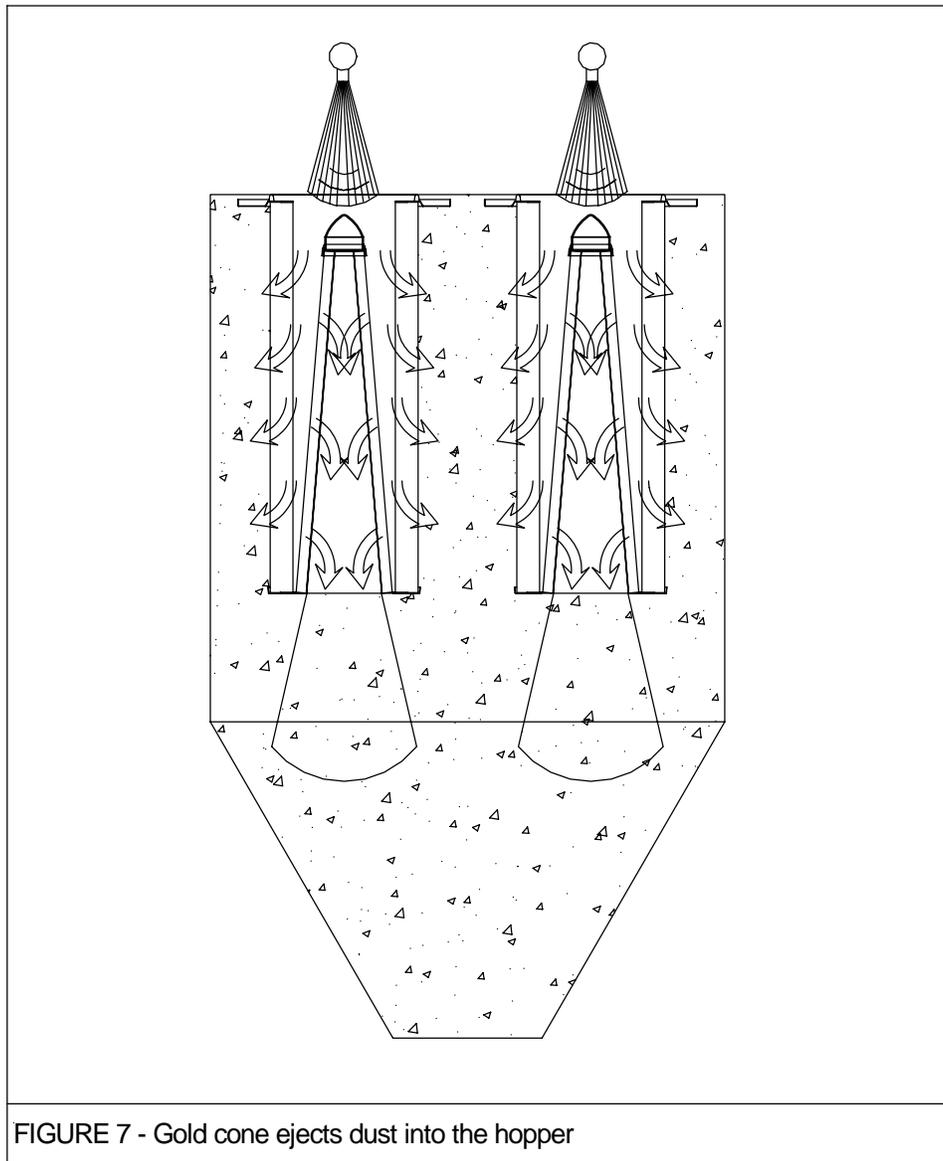

FIGURE 7 - Gold cone ejects dust into the hopper
**Benefit #4:** Here is the biggie that really makes the cone the key for long filter life: the direction of the reverse pulse energy coming out of the cone is straight down into the hopper. This forces light dust particles into the hopper and out of the air stream. This is the only system available on the market today that does not push the dust at the other filters during the pulse. Think about it, in a horizontal or vertical cartridge, when you pulse the filter the majority of the dust is sucked onto to the adjacent filter. The cone does not do this. The exiting pulse air and dust is traveling straight into the hopper. See Figure 7.